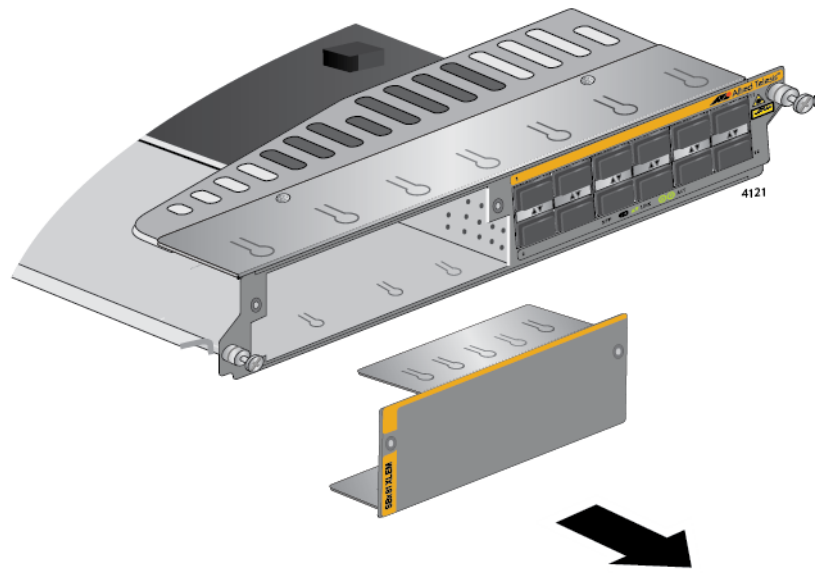

Figure 78. Removing the Blank Slot Cover from the AT-SBx81XLEM Line Card
5. Slide the blank slot cover from the slot. Refer to Figure 78 on page 142.